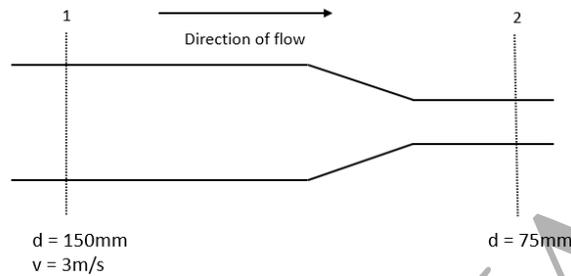

Figure Q2a: Circular pipe with a varying cross section area
- Q2)** a) Water (density =  $1000 \text{ kg/m}^3$ ) flowing in a circular horizontal pipe has a diameter of 150mm and a velocity of 3 m/s. At the downstream section of the pipe, its diameter is reduced to 75mm as is shown in Figure Q2a. Determine the velocity at point 2 and the discharge rate in the pipe.